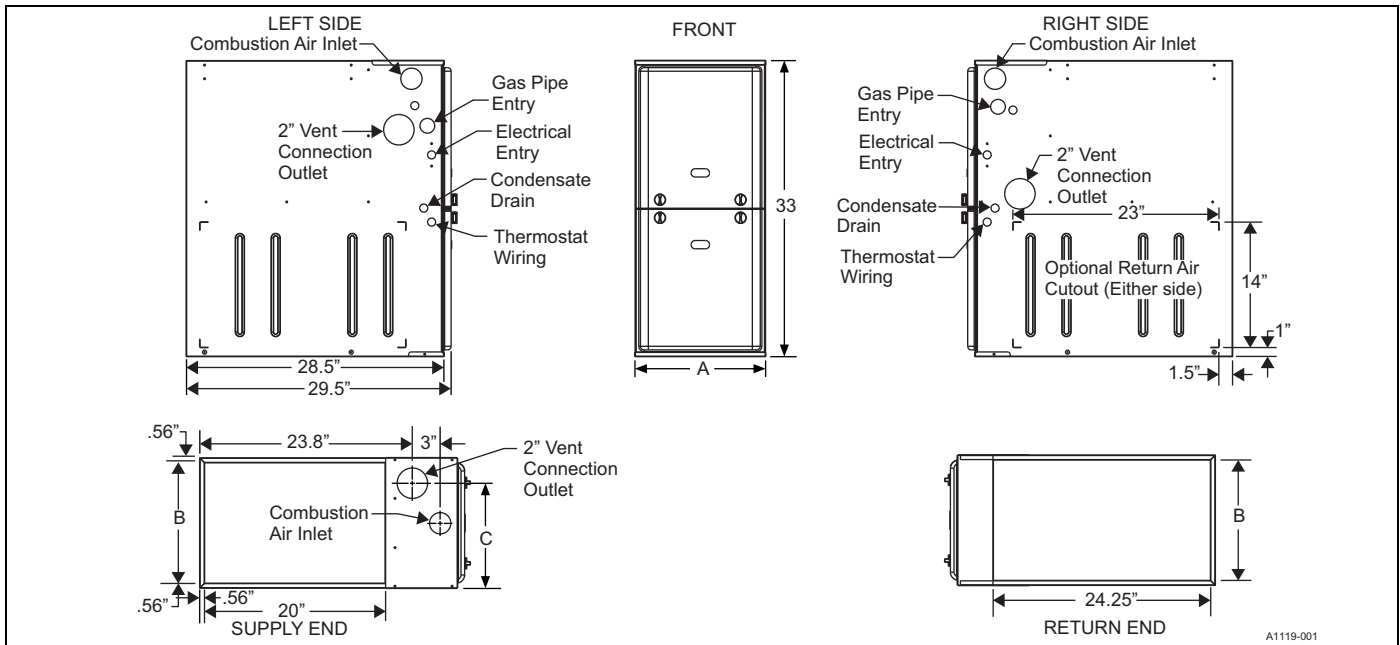

Figure 6: Dimensions
**Important:** Some accessories such as electronic air cleaners and pleated media may require a larger side opening. Follow the instructions supplied with that accessory for side opening requirements. Do not cut the opening larger than the dimensions for the Optional Return Air Cutout shown in Figure 6.
Gas piping can be connected from either side of the furnace using any of the gas pipe entry knockouts on both sides of the furnace. See Figures 6 and 10.